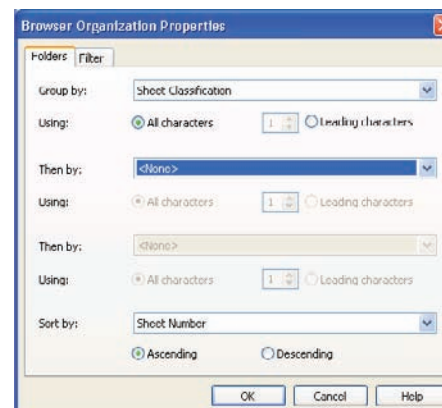

Figure 14.27
- Select the Sort By: Ascending radio button (Figure 14.27).